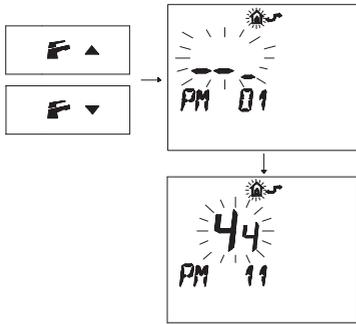

Fig. 7.33
- Press buttons  or  to display the "PM11" program of the pump post-circulation (Fig. 7.33).